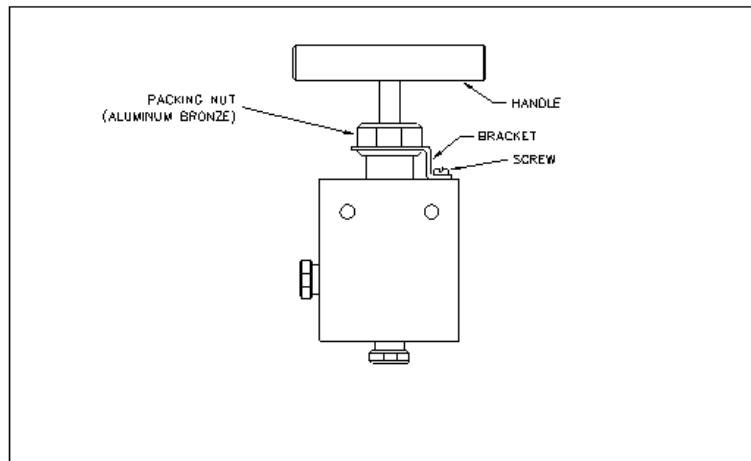

Figure 18
2. Remove screw from the bracket that encircles the large nut at the base of the flow valve handle (see figure 18).